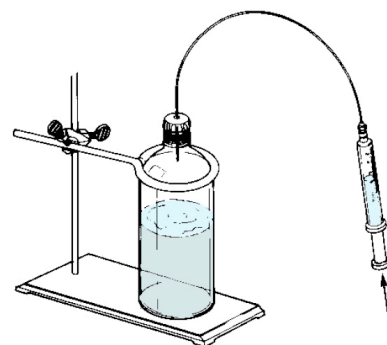

Fig. 2B Removing gas bubbles and returning excess reagent to the Sure/Seal bottle
- Excess reagent and entrained bubbles are then forced back into the reagent bottle (Fig. 2B).
- FOR HIGHLY PYROPHORIC materials such as *tert*-butyllithium and trimethylaluminum, it is best to draw a plug of inert gas from the headspace into the needle after excess reagent is forced back into the bottle (Fig. 2B) and before withdrawing the needle.